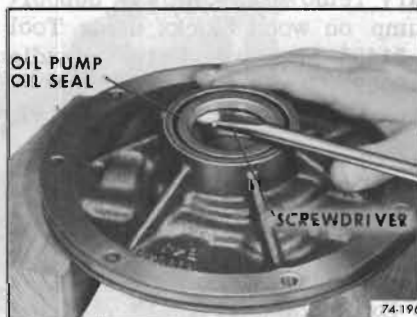

Figure 74-186
13. Examine oil pump seal. If nicked, torn or worn remove seal as follows: Support oil pump body on wood blocks. Remove oil seal with a screwdriver and discard. See Figure 74-186.